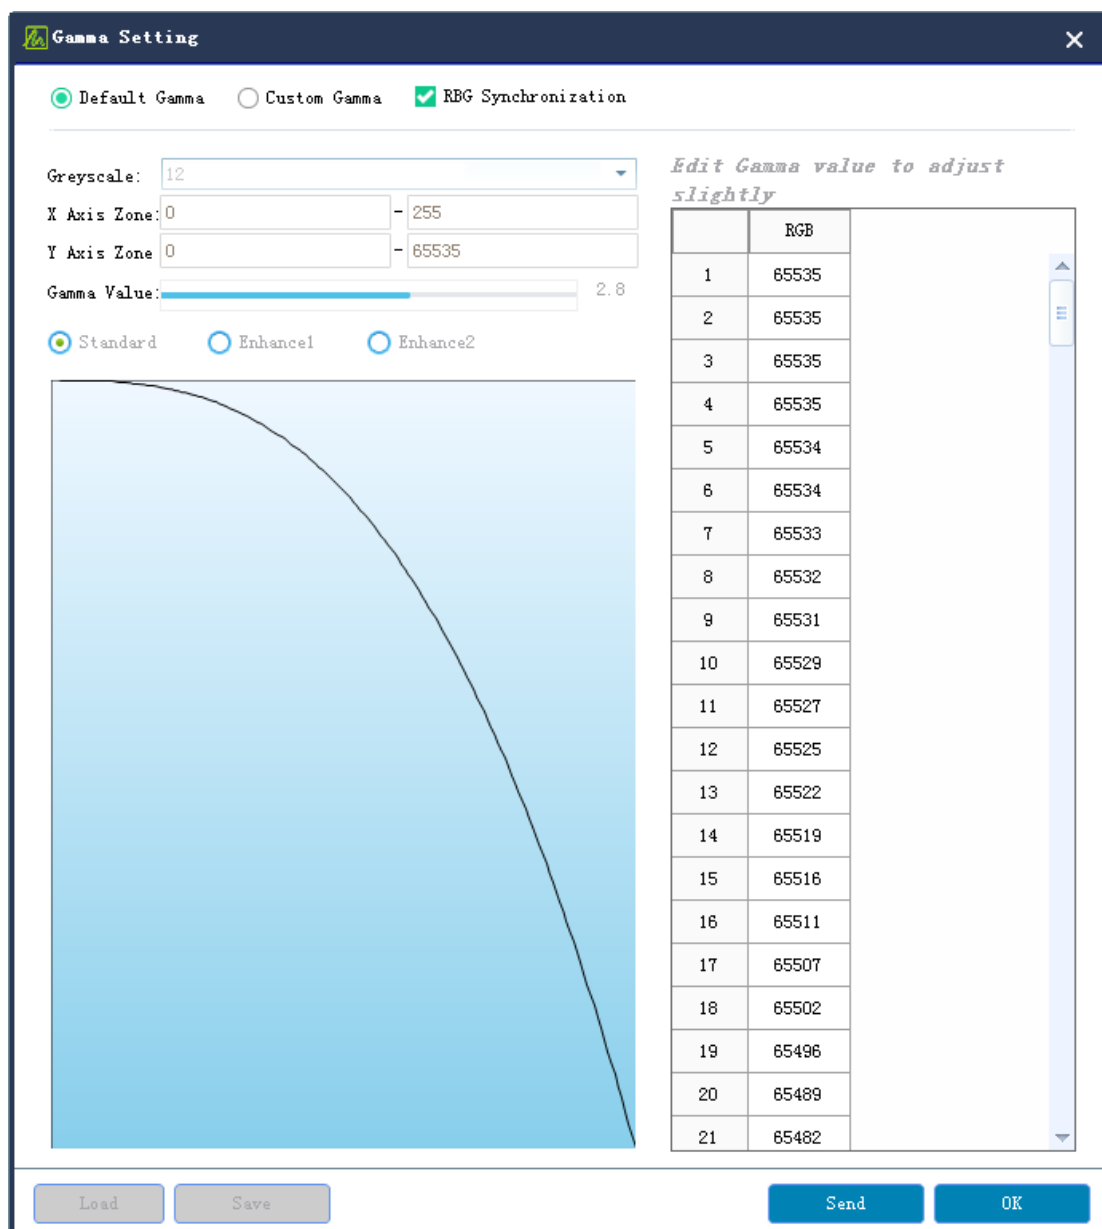

Figure 4-2-10 Custom Gamma Value
- **Gamma Setting:** *Gamma represents the measurement parameter of the original signal, which refers to the distortion of the image output to the input signal, and the Gamma value refers to the specific numerical value of this distortion. Adjust the required Gamma on the Gamma setting column. The default value is 2.8. You can also use the custom Gamma value to edit or load an external Gamma table, as shown in Figure 4-2-10. After debugging, click the "Send" button to save the adjustment effect to the receiving card.*